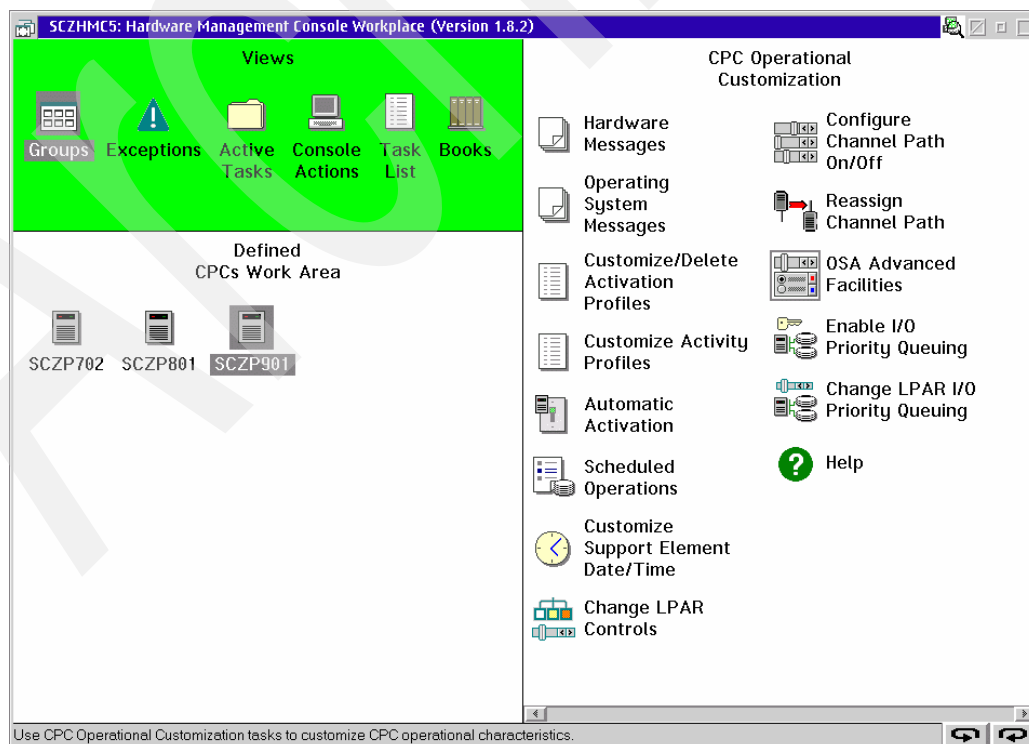

Figure 3-2 HMC workplace
1. Start with the HMC workplace logged on in System Programmer (Sysprog) authority mode (see Figure 3-2).